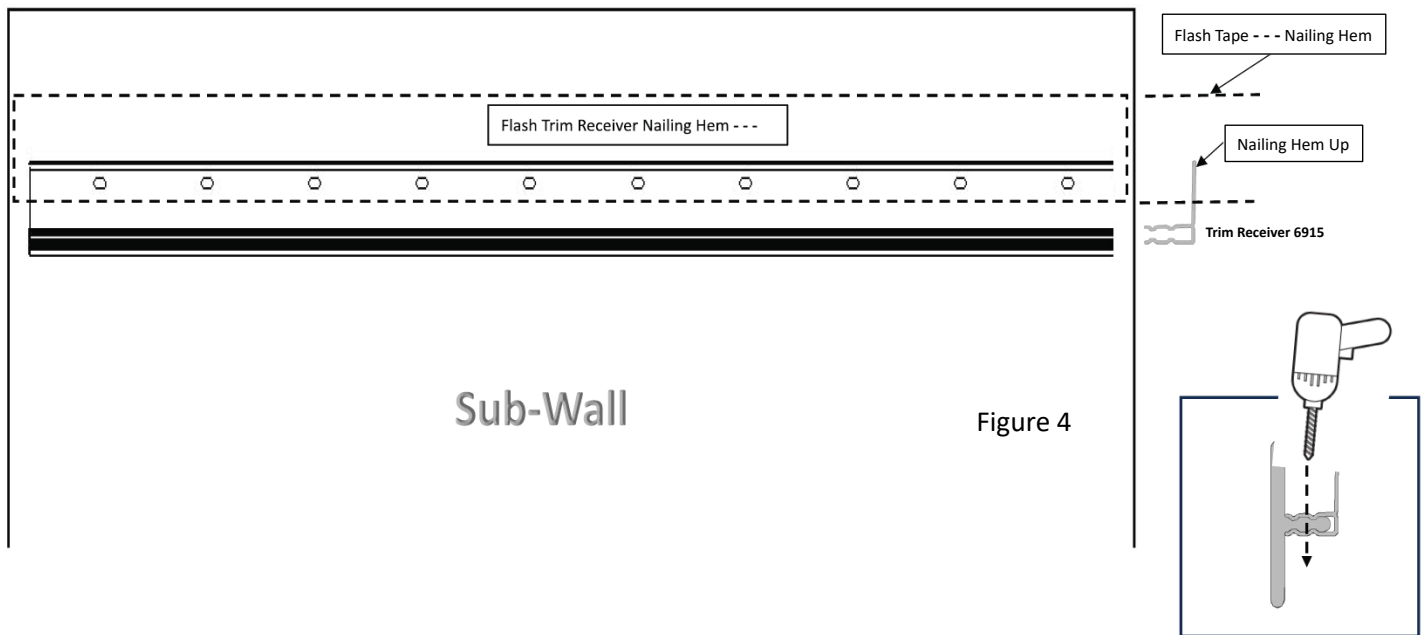

Figure 4
2. Locate Trim Receiver 6915 at the transition point of the wall with the nailing hem up, level, and fastened (Figure 4).
3. Flash along Trim Receiver nailing hem for water management (as you would around Doors & Windows) (Figure 4). \*For additional water management, you can add weep holes by drilling 3/16" - 1/8" holes along the inside channel of the "T"-Moulding ever 24"-36" apart (Figure 5).